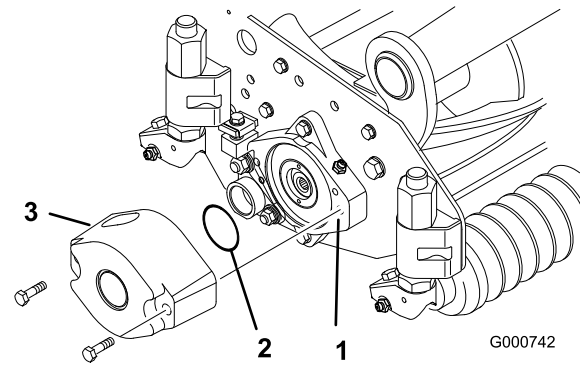
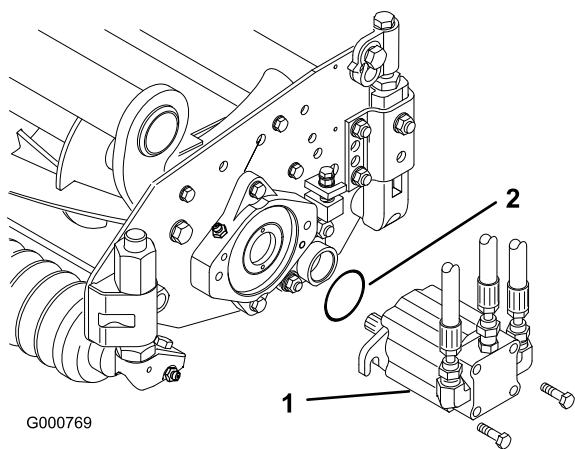

Figure 4
Figure 7
4. Install a counter weight onto appropriate end of each cutting unit with capscrews provided (Figure 4).
3. Lubricate and install a large O-ring into bearing housing groove on each end of cutting unit (Figure 4 & Figure 7).
- Mount the motor to the drive end of the cutting unit and secure with two capscrews provided (Figure 7).